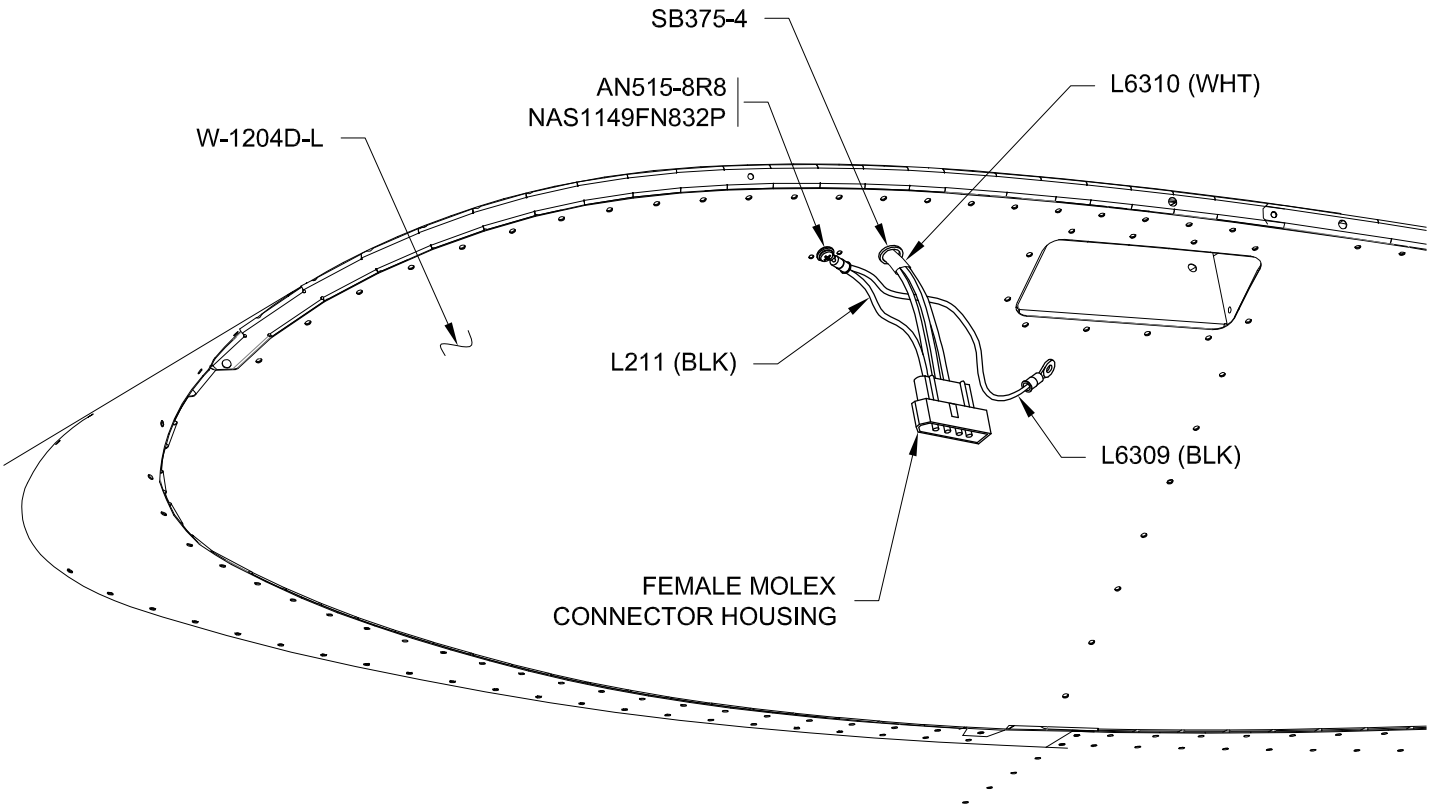

FIGURE 2: NAV/POSITION/STROBE WIRING
Step 5: Locate the L211 (BLK) and L6309 (BLK) nav/position/strobe ground wires (part of the WH-00140 RV-12iS Wing Grounds) and secure the shared ring terminal to the nutplate in the W-1204D-L & -R as shown in Figure 2.
Step 6: Snap the male Molex pin on the end of the L211 (BLK) into a female Molex connector housing as shown in Figure 2, and in accordance with the wiring schematic on Page 40iS/U-05.
Step 7: Reaching in through the landing light cutout and most outboard W-1208 nose rib, feed the L6310 (WHT) through the 3/8 [9.5 mm] hole in the W-1204D-L & -R. See Figure 2.